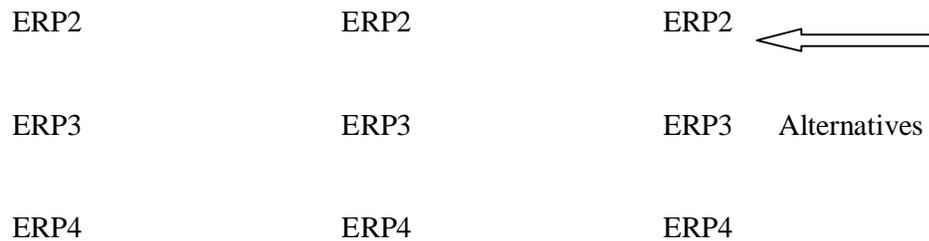

Figure 8.2: Hierarchical tree
Step 2: This Information Is Then Arranged In A Hierarchical Tree (figure 8.2):
Step 5.2: Let's compute our first Eigenvector (to four decimal places) as follows (from figure 8.2):